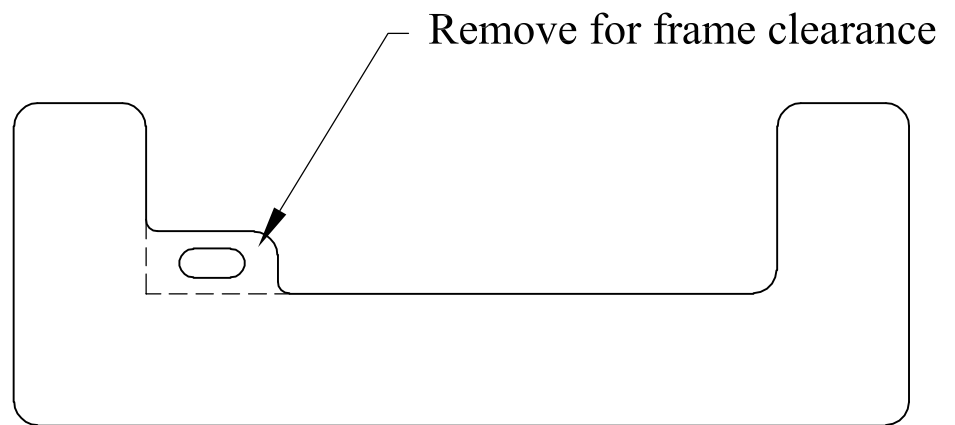

Figure 15 - Bottom View of Factory Bumper Bracket
40. The front bumper must be modified for frame clearance. Remove the tab (on each side) protruding from the stock bumper brackets **Figure 15**.